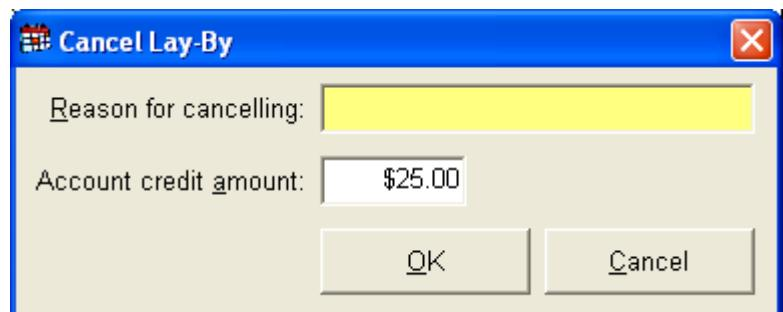

Figure 87
3. Select 'Cancel Lay-By' this will display the 'Cancel Lay-By' (see Figure 87), you will be prompted to enter a 'Reason for cancelling'. Depending on the payments the customer has made there may be a Lay-By 'Account credit amount'.